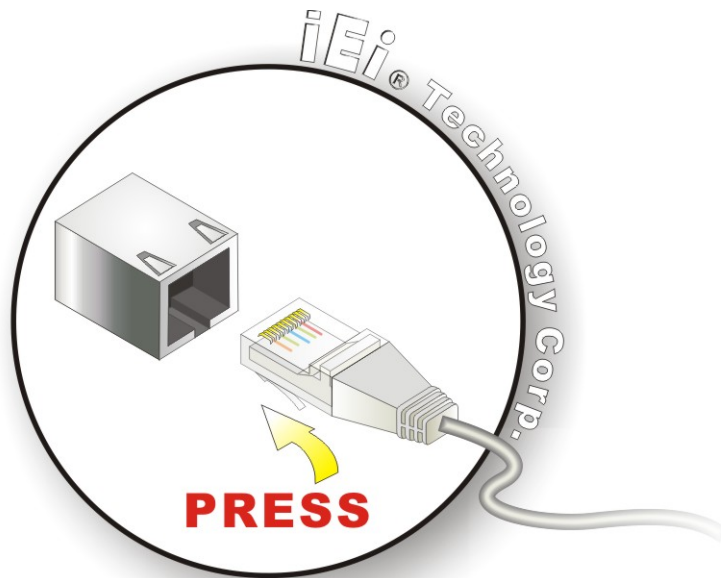

Figure 4-21: LAN Connection
Step 2: Align the connectors. Align the RJ-45 connector on the LAN cable with one of the RJ-45 connectors on the NOVA-HM551. See Figure 4-21.